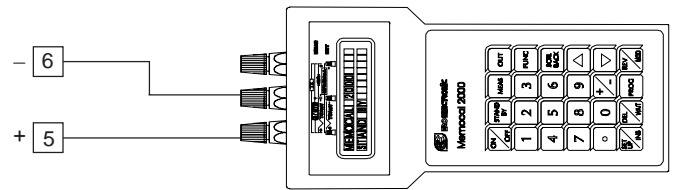

Fig.12
b) Connect the instrument under test to the calibrator as shown in Fig. 12.